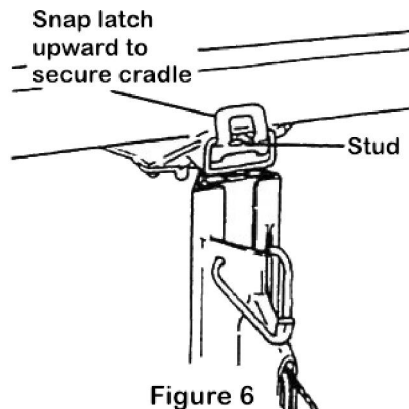

Figure 6
8. Attach the cradle to the frame (Figure 6):